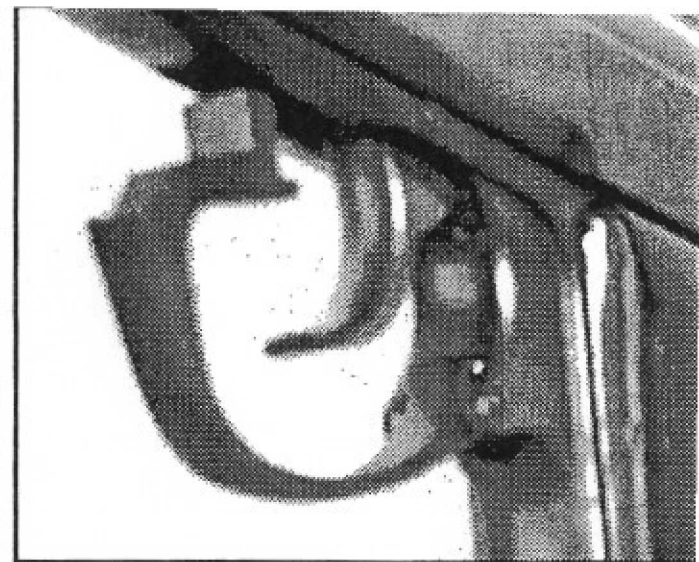

FIGURE 4: RESTING TRIGGER GUARD ON FRAME FOR DISASSEMBLY
- 8) The P-64 is equipped with a loaded chamber indicator located at the rear of the slide, just below the rear sight (Figure 3). If a cartridge is in the chamber, the indicator will protrude to the rear approximately .100" (see Figure 4).
- 6) Push the trigger guard to left or right, resting its edge upon the pistol frame (See Figure 4).